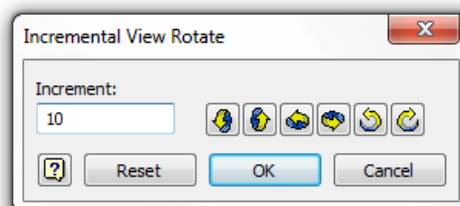

Figure Step 10
Step 10 Enter the PRECISE VIEW ROTATION command. In the Incremental View Rotate dialogue box, set the Increment to 10. (Figure Step 10)